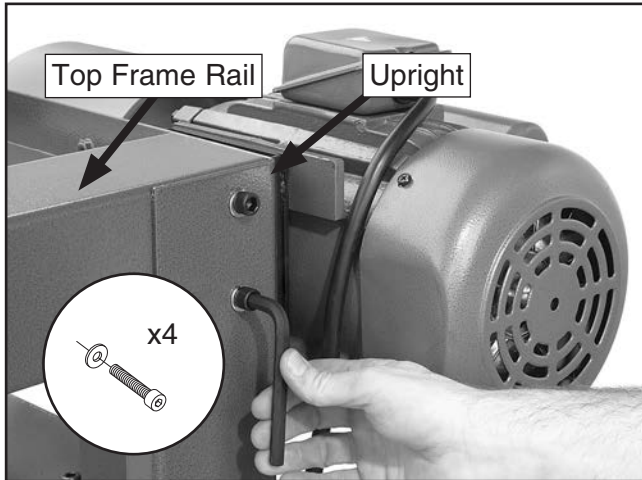

Figure 13. Top rail attachment.
- Attach the top frame rail to the top of the uprights with (4) $\frac{3}{8}$ "-16 x $\frac{3}{4}$ " cap screws and (4) $\frac{3}{8}$ " lock washers, as shown in **Figure 13**. Do not yet fully tighten the cap screws.